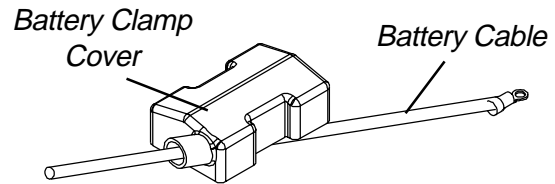

**FIGURE 4 - CONNECTING BATTERY CABLES - BATTERY CLAMP METHOD**
**BATTERY CLAMP METHOD (FIGURES 4, 5 AND 6).**
- B. If the battery clamp on the POSITIVE (+) battery terminal/post is positioned as shown in FIGURE 4, proceed to STEP 2.